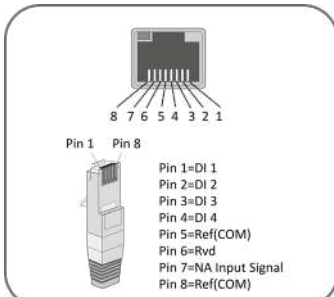

Fig. 41. Cable pin assignment
- 1.Strip the insulation from the wire and crimp it into the corresponding terminal (see Fig. 41)